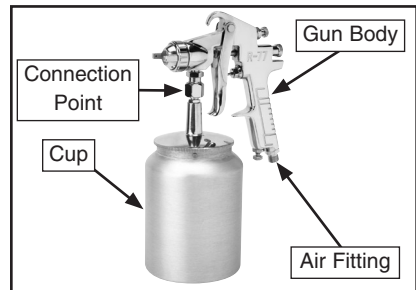

Figure 2. Model H8222 gun body installation.
1. Attach the gun body to the cup as shown in **Figure 2**.